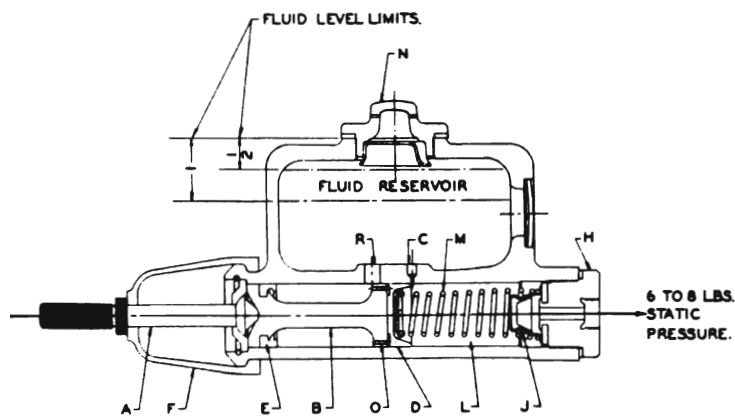

Fig. 5-1. Master Brake Cylinder
4. Do not fill reservoir beyond the *lower* end of the filler plug. See Brake Chart or Fig. 5-1 for recommended fluid level.
(See Fig. 5-1)
10. Check master cylinder fluid level to limits given. See Fig. 5-1.